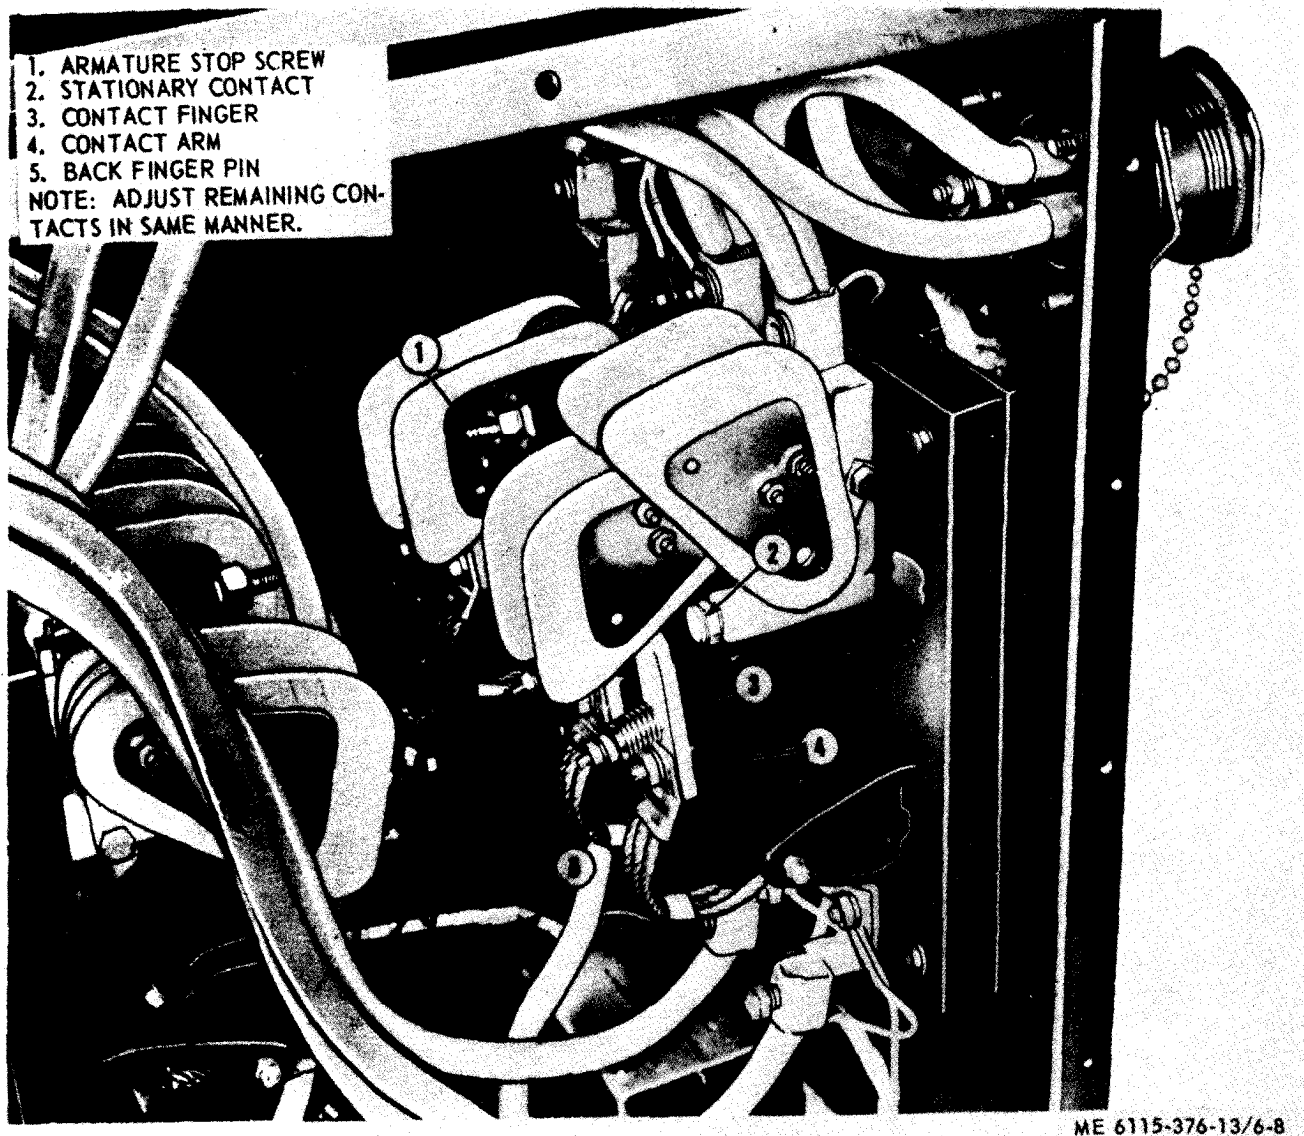

Figure 6-8. Automatic switch adjustment.
(7) Remove locknut (48), washer (26), nut (48), and spring assembly (49). Remove nut (32), washer (6), lead cable (33), and movable contact point (45), and remove washer (44) from point mounting post mounted on terminal board.
c. Automatic Switch, Adjustment. Refer to figure 6-8 and perform the following:
(1) Adjust open contact gap to 5/8-inch by turning nut on armature stop screw in or out.
(2) Adjust back finger gap between contact finger and contact arm to 1/4-inch by turning back finger pin in or out.
(3) Closed contact deflection should be 1/16-inch manual. All contacts must make and break simultaneously.